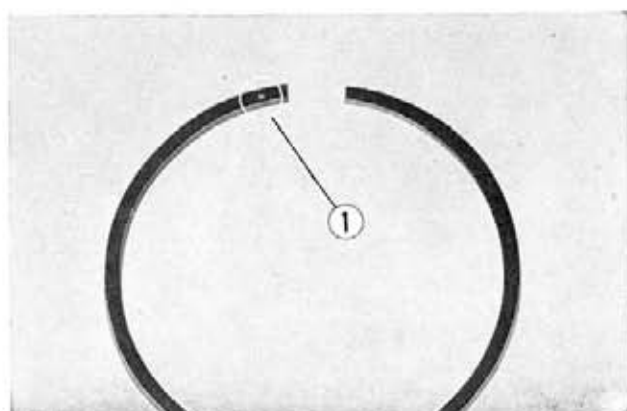

Fig. 3-67 ① Arrow marks
3. Assemble the piston on the connecting rod so that the arrow mark on top of the piston is toward the exhaust side (forward) then install all new piston pin clips. (Fig. 3-67)